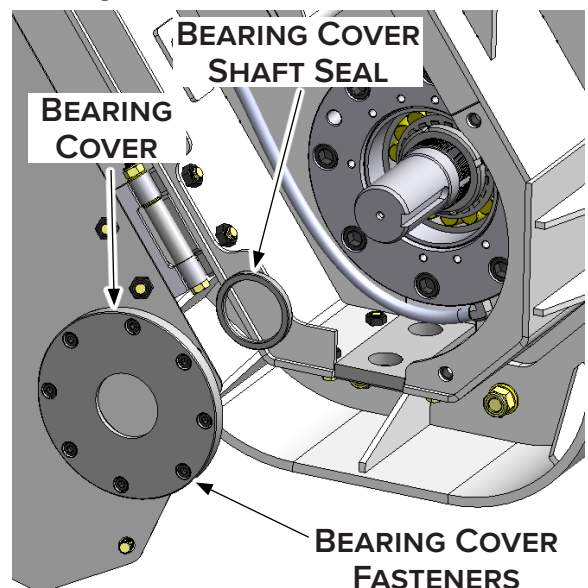

Figure 28
16. Install the bearing housing cover, and torque the fasteners to 25 lbf·ft (34 N·m) with a 6 mm Allen key and medium strength threadlocker. See Figure 28.